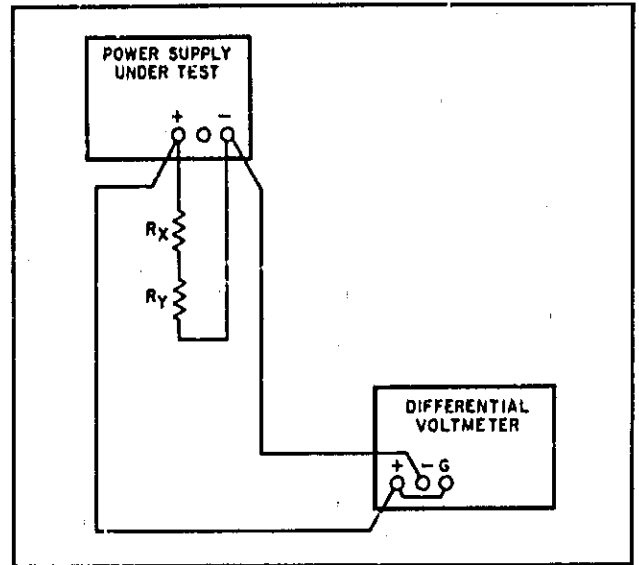

Figure 5-3. Load Regulation, Constant Voltage
- a. Connect test setup shown in Figure 5-3.
- c. Connect test setup shown in Figure 5-3.